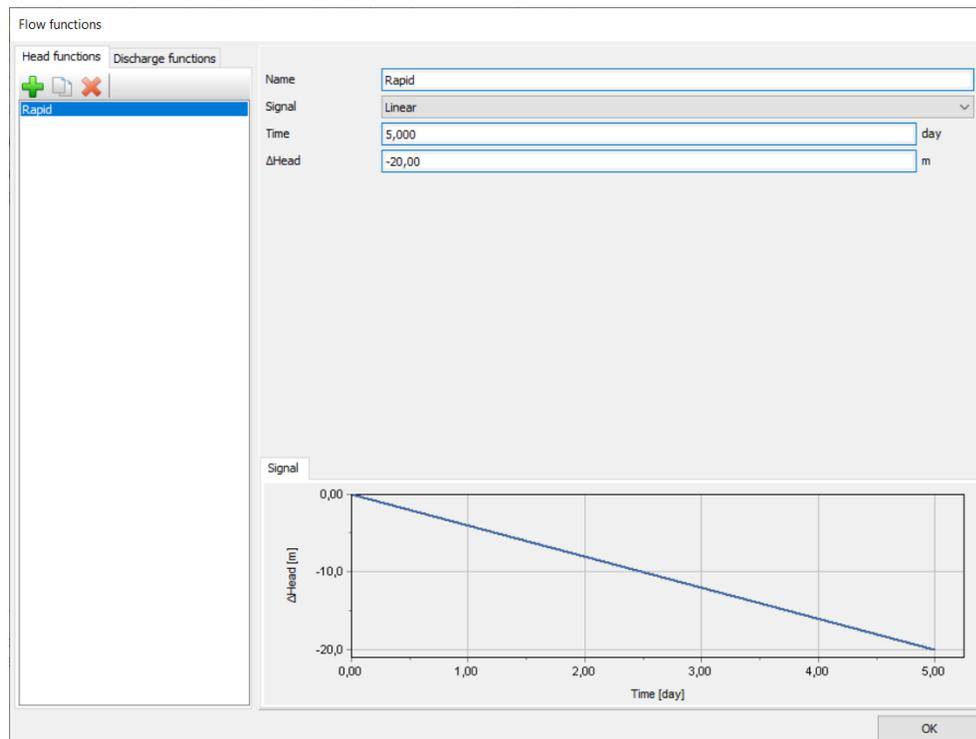

Figure 109: The flow function for the rapid drawdown case
- d. Specify a time interval of 5 days. Figure 109 (on page 136) shows the defined function.